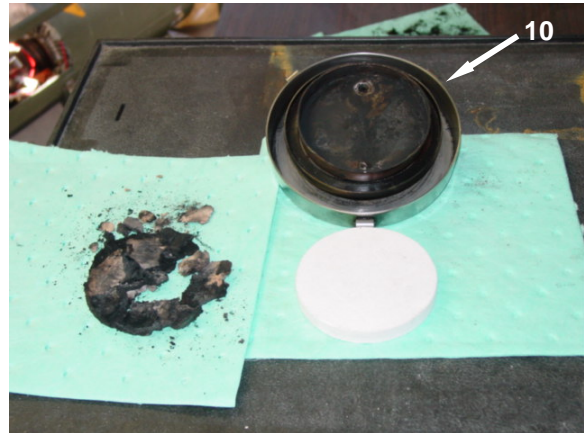

Figure 9. Replace the Burner Assembly Wick - Continued.
8. Use the wrench to pry the wick (**Figure 9, Item 13**) up and remove it from the burner assembly cover (**Figure 9, Item 10**). Ensure that all of the wick material has been removed.
9. Wipe the burner assembly cover (**Figure 9, Item 10**) clean of loose carbon deposits and remaining wick material.